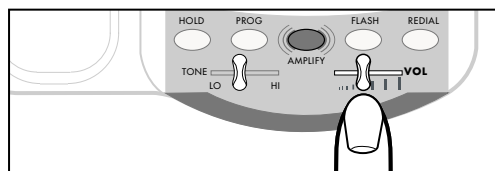

Figure 9 - Volume Slide Control
2. Adjust the volume in the ear piece by moving the **VOL** slide control in Figure 9. With **AMPLIFY** ON incoming volume will be up to 30dB louder.